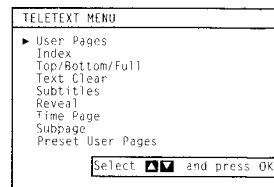

Fig. 35.
- 1 Press MENU. The menu will be superimposed on the teletext display. (See Fig. 35)